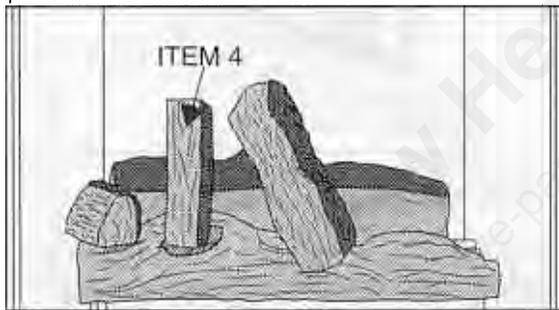

Figure 55
6. See Figure 55. A second small straight log (Item 4) is installed next. Position this log with the "bark" to the right. This log is placed vertically against the Back Log. Its position is between the two top logs with the bottom end resting on the top edge of the Burner Pan Assembly.